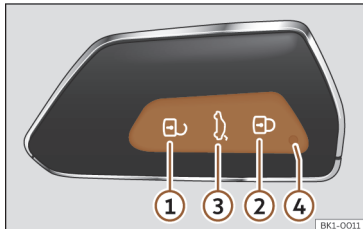

Fig. 64 Vehicle key
When a button is pressed briefly on the vehicle key, the control lamp ④ >>> Fig. 64 flashes once briefly, but if pressed for a long period of time, it will flash several times, for example, when using the comfort opening.